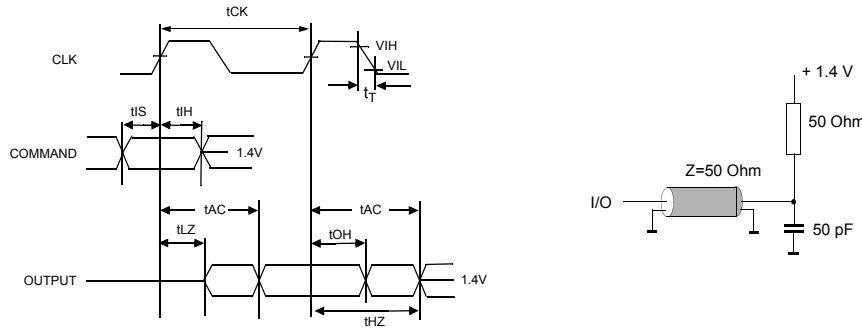

Figure 1.
2. AC timing tests have $V_{IL} = 0.4V$ and $V_{IH} = 2.4V$ with the timing referenced to the 1.4 V crossover point. The transition time is measured between V_{IH} and V_{IL} . All AC measurements assume $t_T = 1\text{ns}$ with the AC output load circuit shown in Figure 1.